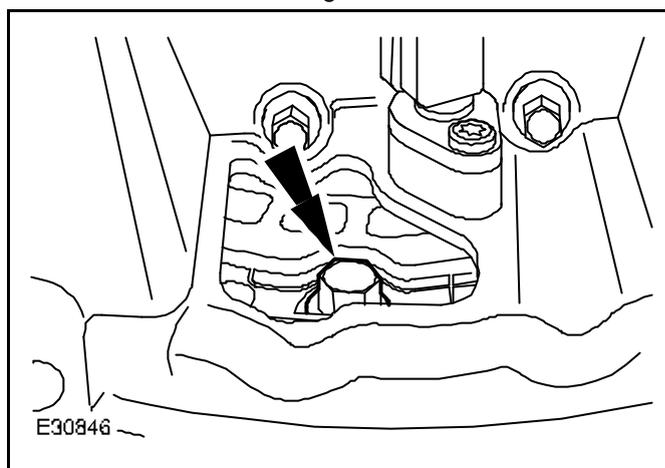

Fig. 11
- 21 Install and fully tighten the torque converter retaining bolts to 55 Nm (see Fig. 11).